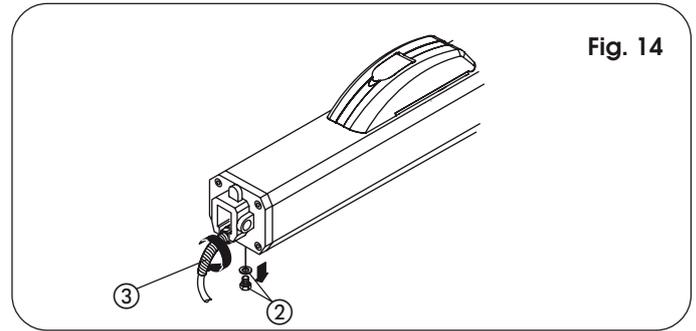

Fig. 14
- A) Insert the two anti-vibration spacers ② onto the front flange.
B) Introduce the housing, pressing it firmly on the rear cover ①.
C) Secure the housing with the self-tapping screw ③.
D) Fit the front cover ⑤ on the housing and fasten it with FIX plug ④.
- 13) Fit the electric cable bend guard (ref.③, Fig. 14).
- Remove the breather screw (Fig. 14, ref. ②)